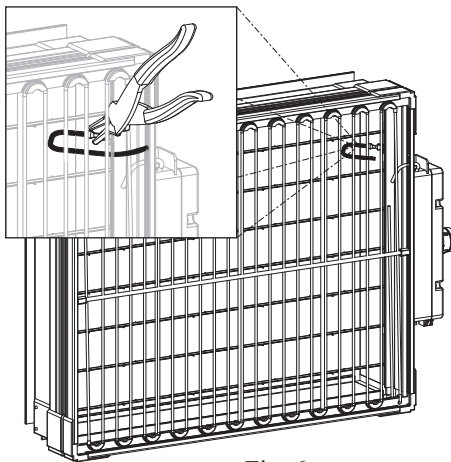

Fig. 6
- 6: Disconnect the 1/4" quick disconnect terminal (with the cut wire) from the ionization array and discard (Fig. 6) - this may require the use of needle-nose pliers.